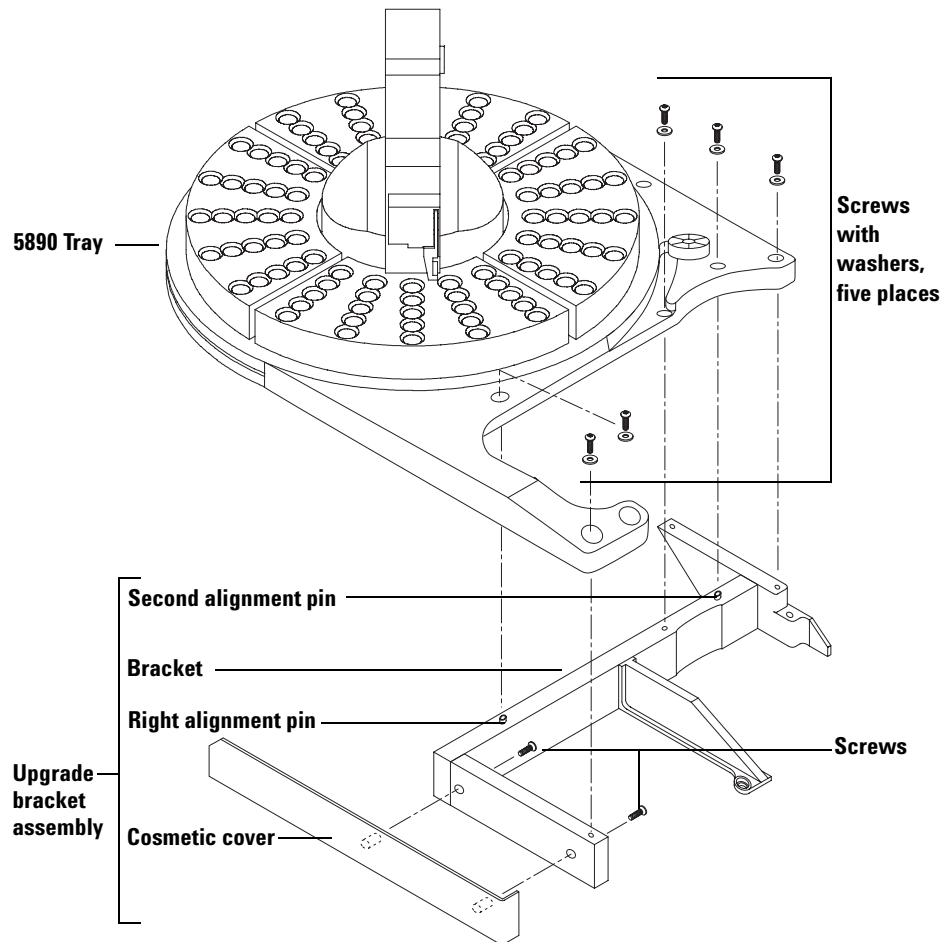

Figure 11 Installing the upgrade bracket
- 2 Install the cosmetic cover on the side of the bracket using the two supplied screws. See Figure 11.
- 3 Set the tray on the upgrade bracket from the kit so that the frontmost pin on the upgrade bracket fits into the mating hole in the bottom of the tray (Figure 11). Align the tray to the second alignment pin on the upgrade bracket.